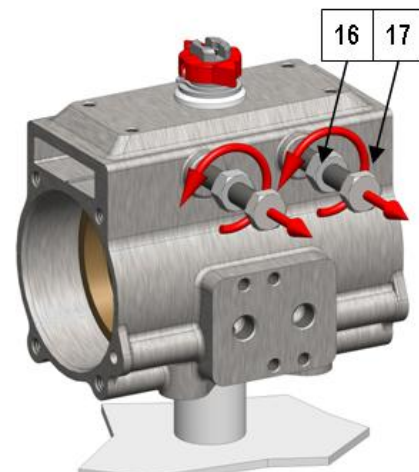

Fig.3
7. Loosen nuts (16) and unscrew completely screws (17) see Fig. 3 ;